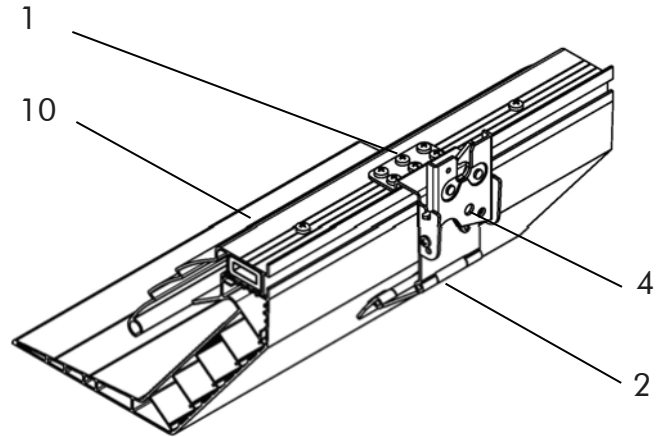

Figure 3. Latch Lock
Slide Latch lock (4) into the universal base plate (2) and with the self-drilling screw M5 (5) fix into place. (Figure 3).